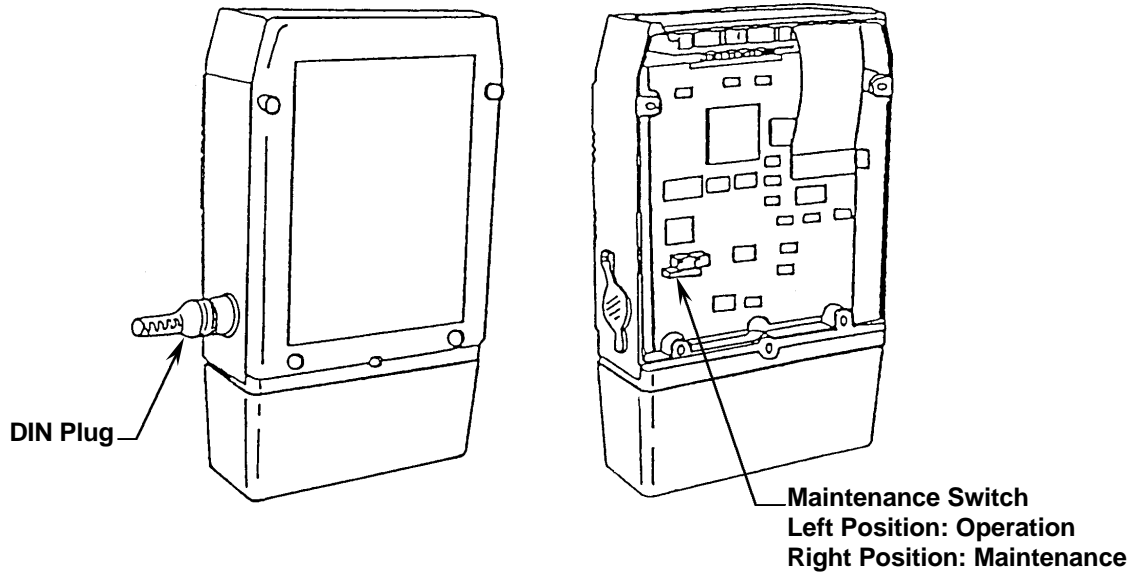

Figure 3-1: Accessing the Maintenance Menu
- After opening the enclosure on the circuit board side and positioning the switch towards the center of the device. See Figure 3-1, right side.
- Without opening the enclosure by inserting the special plug in the DIN socket located on the side of the enclosure. See Figure 3-1, left side.